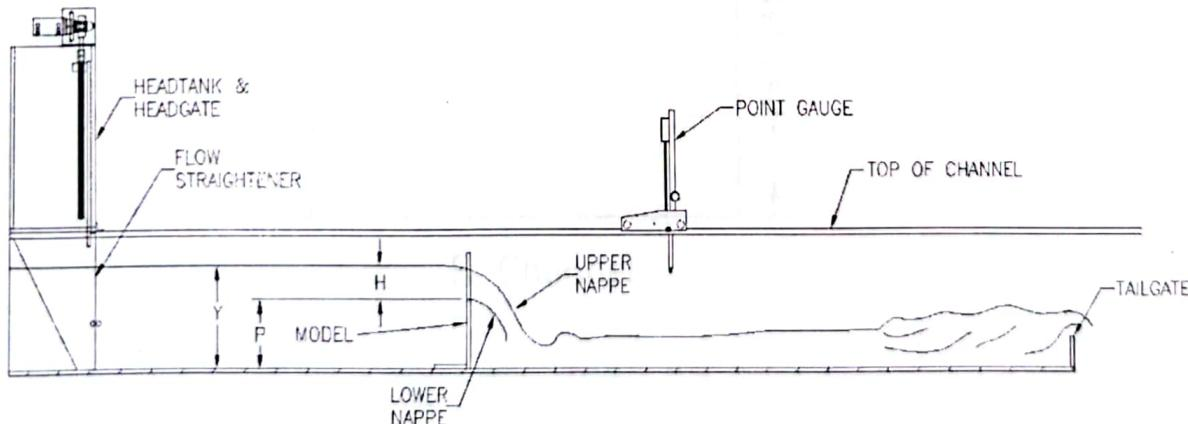

Figure 1 Installation
1. Initial settings (Fig. 1):
2. Mount the vee notch weir model midway in the channel using two (2) #10-24UNC-2A x 0.625" long Round Head Machine Screws (RHMS) on the flange.